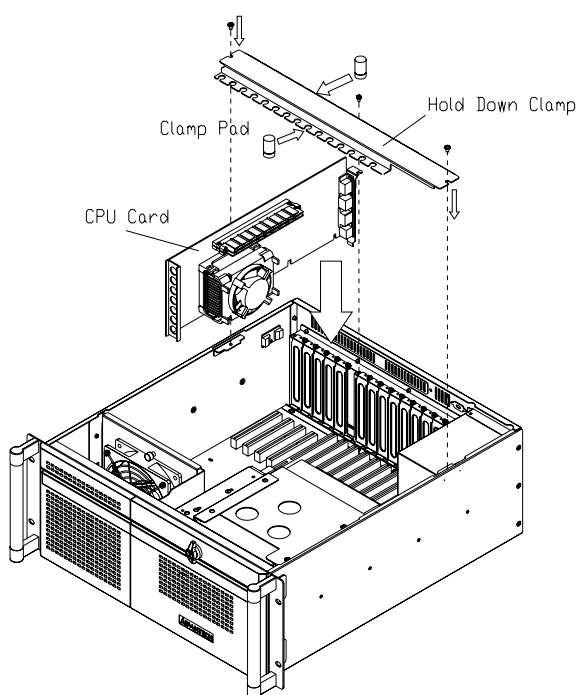

Figure 2.4 Installing a CPU card
- other edge of the card has been inserted into the plastic guiding fillister. Fasten the screws on the top of both brackets of the card. (see Figure 2.4).